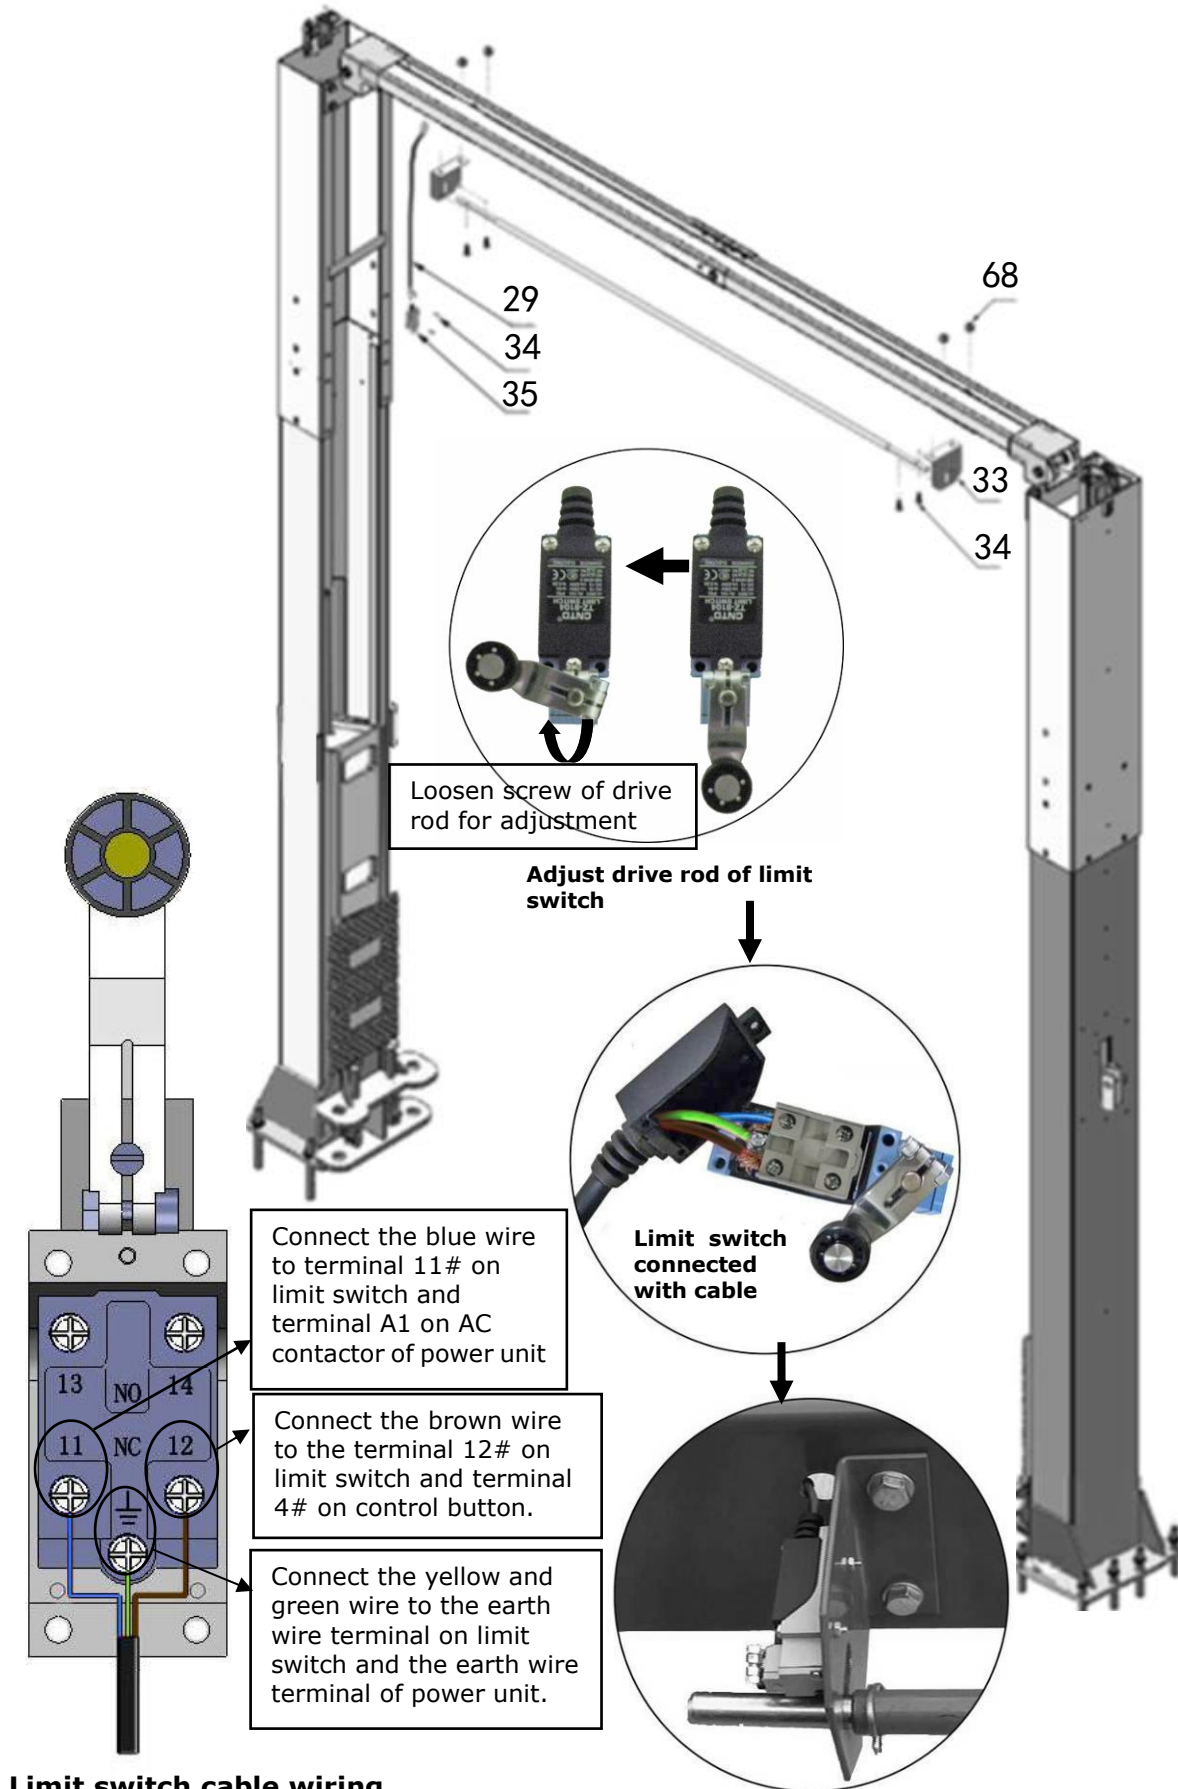

Fig. 24
I. Installing the limit switch control bar and limit switch (See Fig. 24).